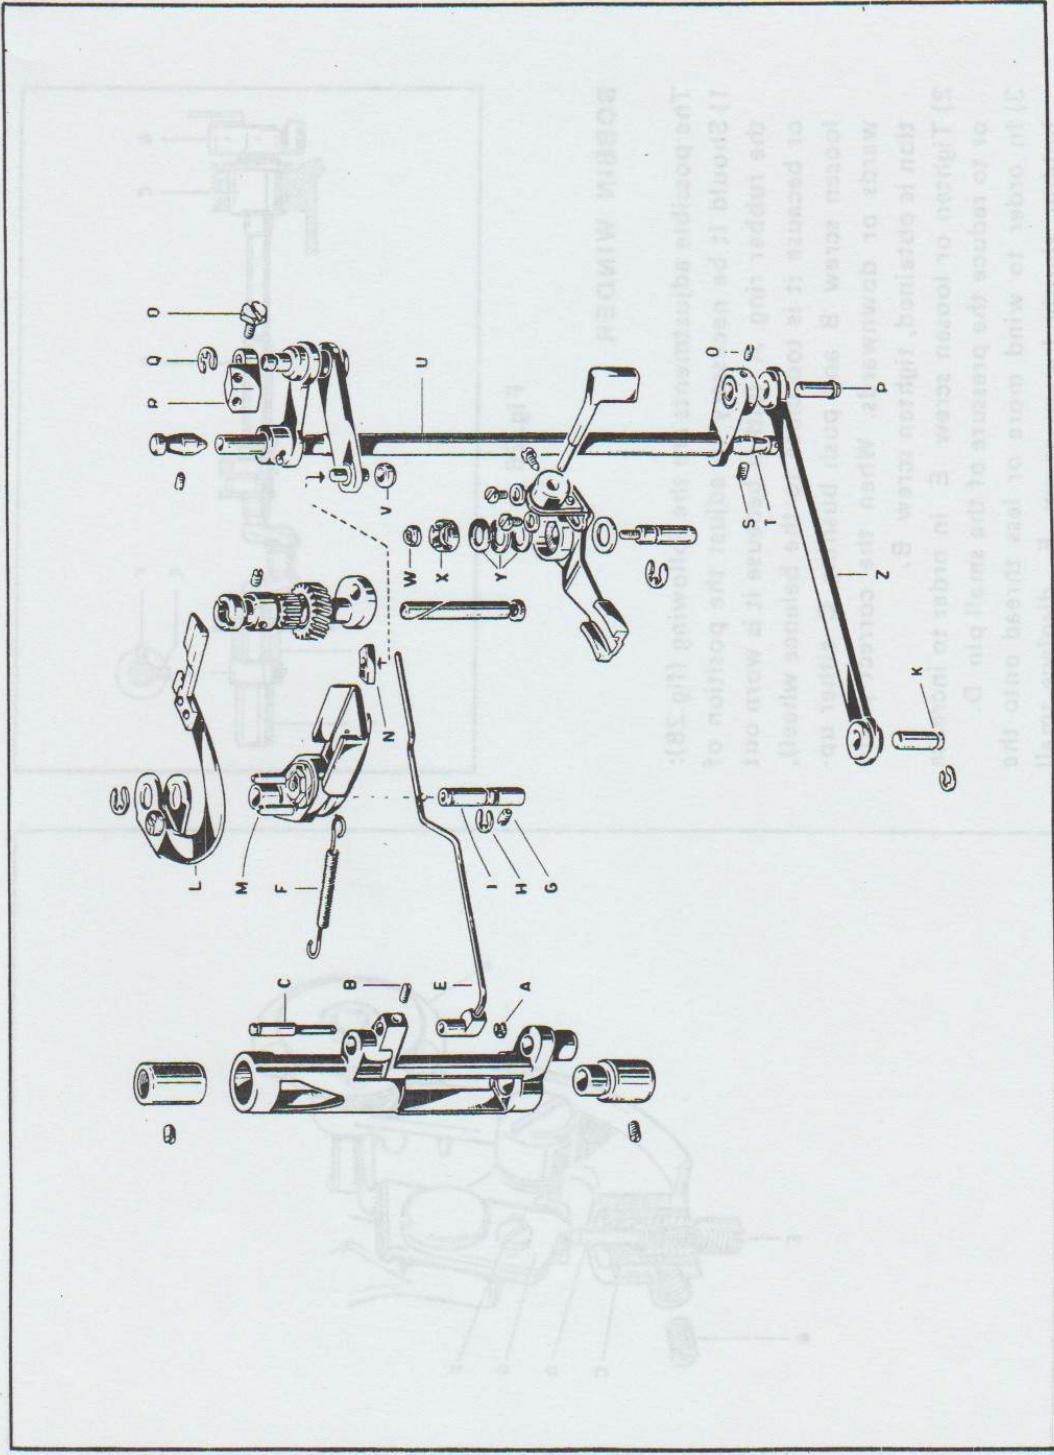

Fig. 28
The possible adjustments are the following (fig. 28):
- 1) Dismantling of the oscillation lever **M** (fig. 28) in order to replace ball bearings or to adjust excessive clearance.
- 2) Replacement of worn out sector **N** and roller **V** (fig. 28).
We will describe hereunder the operations required for the extraction or the adjustment as per the above points (fig. 28):
- release spring **F** (fig. 28) at its left end;
To begin the regulation of these adjustments set the height of the vertical shaft U (fig. 28) in such a way that the connecting rod Z (which at its left end will have to rotate freely around its pin K without too much axial play) is on the same level as the lower plane of the lever of the vertical shaft U, to which it will be joined by means of the pin P, which should go in easily.
If the needle is not equally distant from both sides of the needle plate slot, introduce a screwdriver into gauge window and reach screw (fig.28); loosen said screw and displace needle bar support together with rod E until desired centering is obtained, then tighten screw D again.